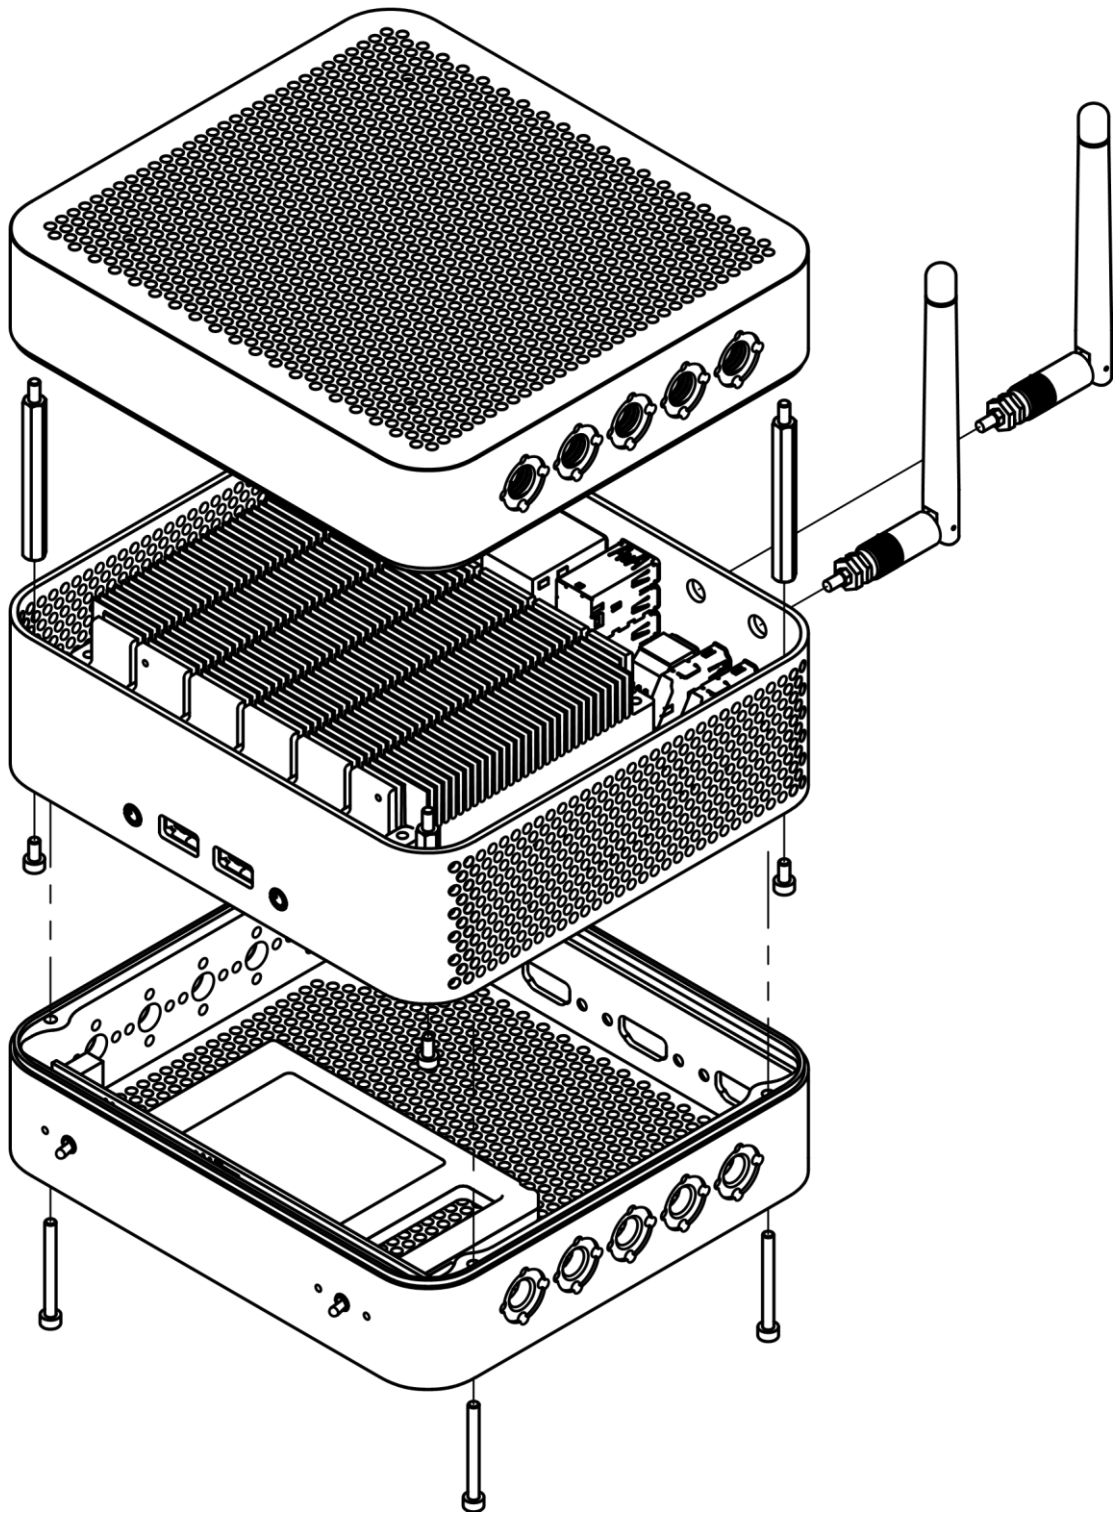

Figure 20. Reference chassis sections overview
- Figure 20. Reference chassis sections overview